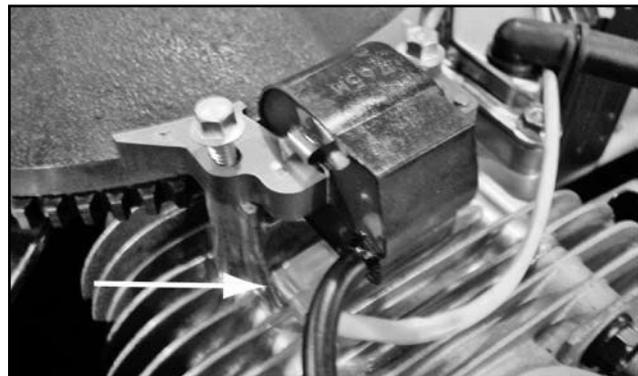

Figure 39.
5. Long plug wire (B) will be installed on front cylinder number two.
6. Short plug Wire (A) will be installed on back cylinder number one.
7. Verify installation of magnetos correctly by ensuring both spark plug wires point to the back of the enclosure and shutdown terminals are nearest cylinder head as shown in Figures 39 and 40.